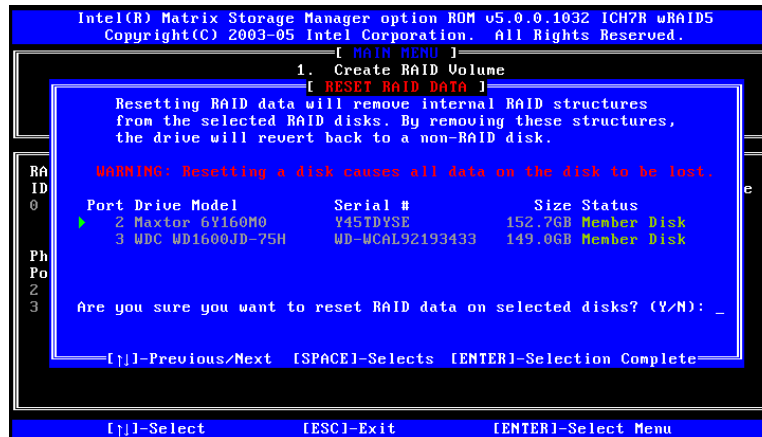

Figure G-14: Reset Disk Verification
Step 3: Reset Disk Verification. After reading the warning, press **Y** to reset the selected disks as non-RAID, or **N** to return to the **Reset RAID Data** menu. See **Figure G-14**.